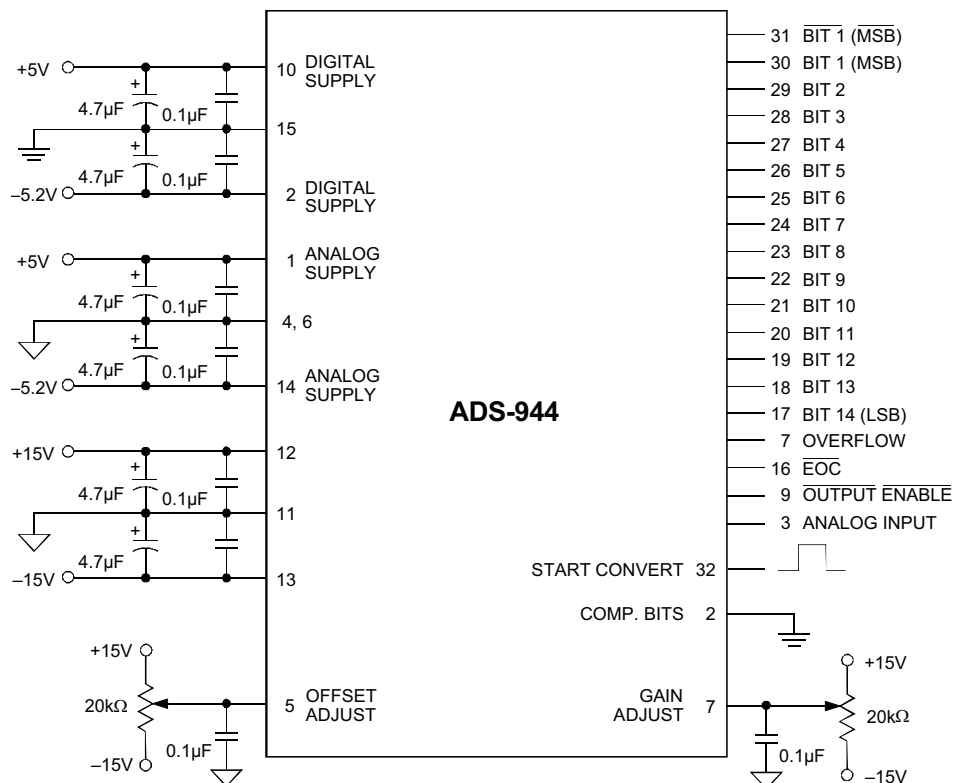

Figure 2. ADS-944 Connection Diagram
2. The ADS-944 achieves its specified accuracies without the need for external calibration. If required, the device's small initial offset and gain errors can be reduced to zero using the adjustment circuitry shown in Figure 2. When using this circuitry, or any similar offset and gain-calibration hardware, make adjustments following warmup. To avoid interaction, always adjust offset before gain.
CALIBRATION PROCEDURE (Refer to Figure 2 and Table 1)
Any offset and/or gain calibration procedures should not be implemented until devices are fully warmed up. To avoid interaction, offset must be adjusted before gain. The ranges of adjustment for the circuit in Figure 2 are guaranteed to compensate for the ADS-944's initial accuracy errors and may not be able to compensate for additional system errors.